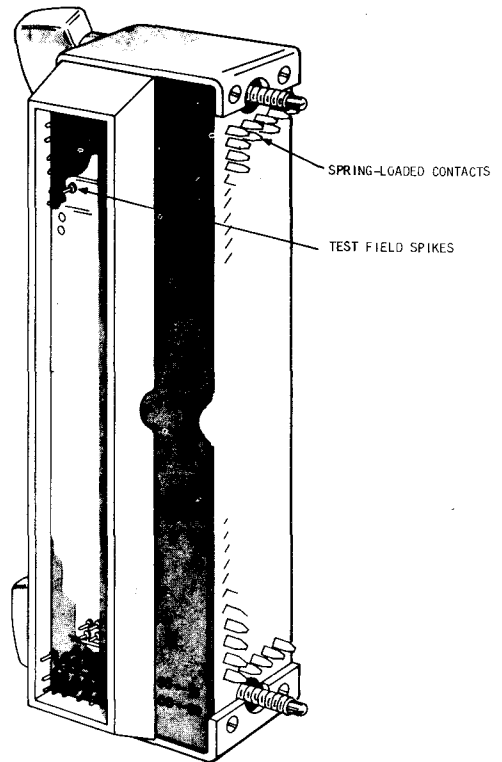

Fig. 7—N Test Connector
2.05 The *N test connector (AT-8882)*, shown in Fig. 7, consists of a four-piece, plastic-molded body in which 200 spring-loaded contacts are housed and connected internally to 200 exposed test field spikes which are located on the side of the connector. The spikes permit the attachment of test cords to equipment and provide a means of checking one cable pair at a time. The N test connector mounts on the 305-type connector and positions the test field points to face the craft person.